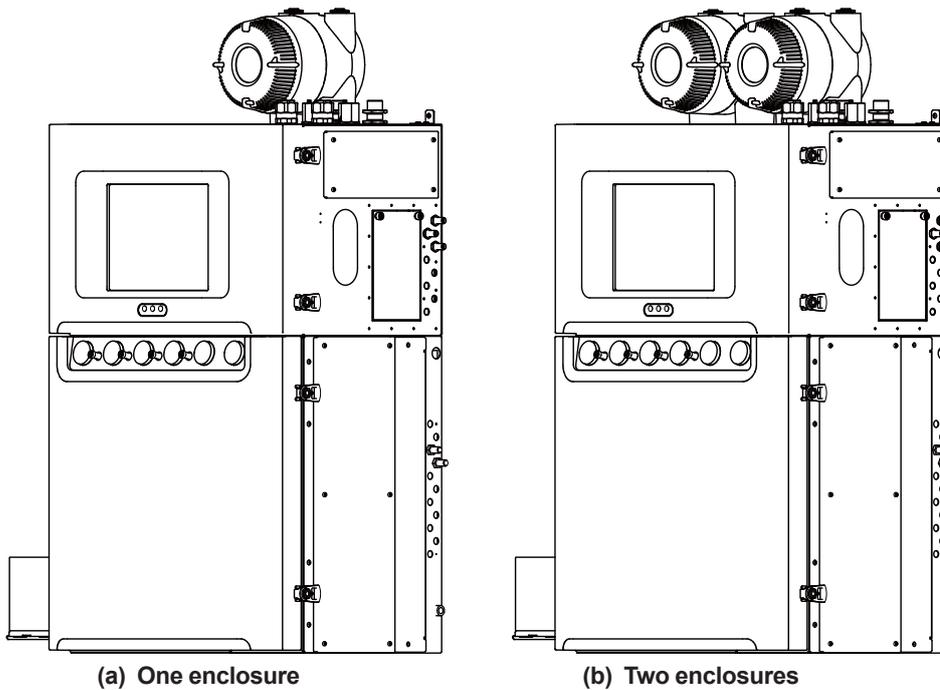

Figure 6.2
There are 2 types of protection systems depending on type of GC8000, as shown in Fig. 6.2. No enclosure is mounted for FM/CSA explosionproof Y-purge type.
- **One protection system (see Figure 6.2 (a))**
- **Two protection systems (see Figure 6.2 (b))**